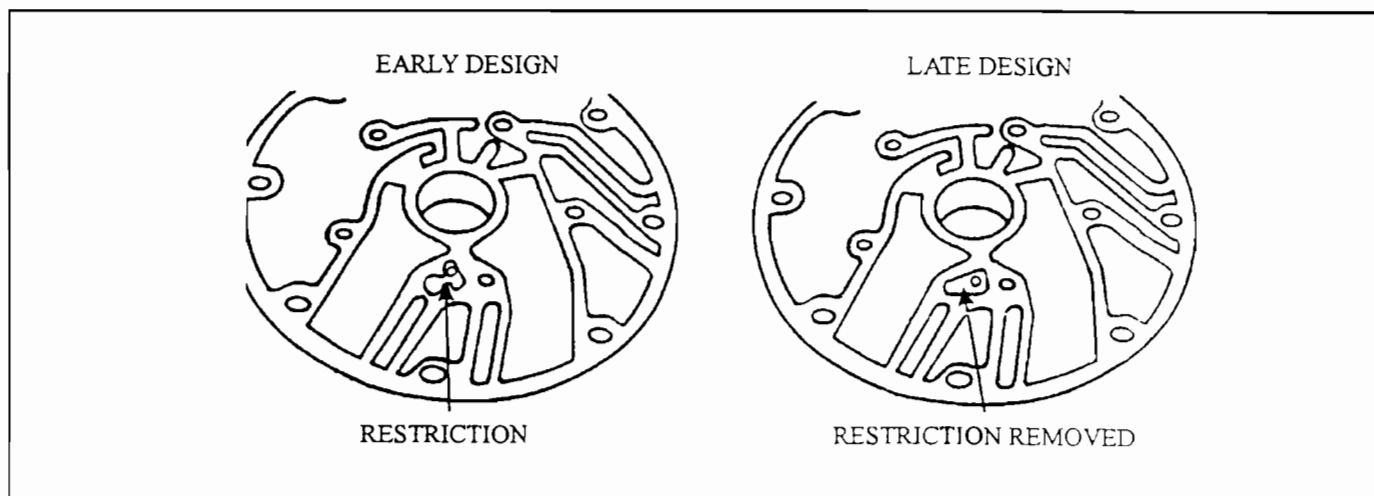
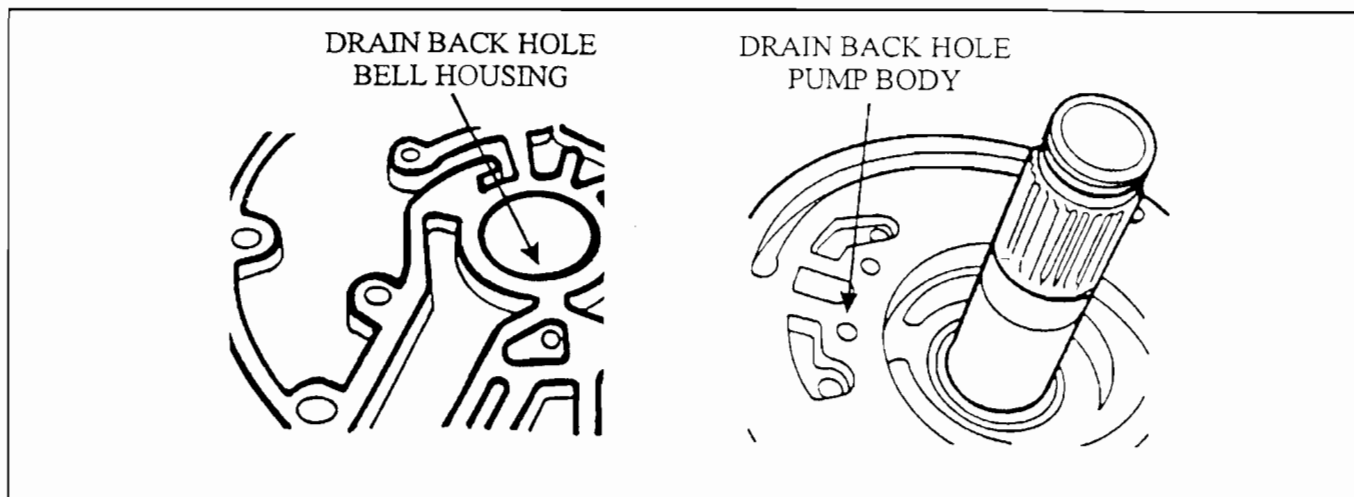

FIGURE 7
FIGURE 8
Three Design Levels- of Reverse engagement valve trains. Placement of retainers is critical. Figure 7 shows the location of these retainers.
(1) **BELL HOUSING** -Converter drain back passage area was enlarged for better flow to the drain back hole in the pump body. Refer to Figure 7. It is not necessary to replace the bell housing to cure this complaint. Using a rotary file, or die grinder, remove material to allow full flow drain back hole, Refer to Figure 7. Also enlarge the existing drain back hole in both the bell housing and the pump body to 1/4" Refer to Figure 8.